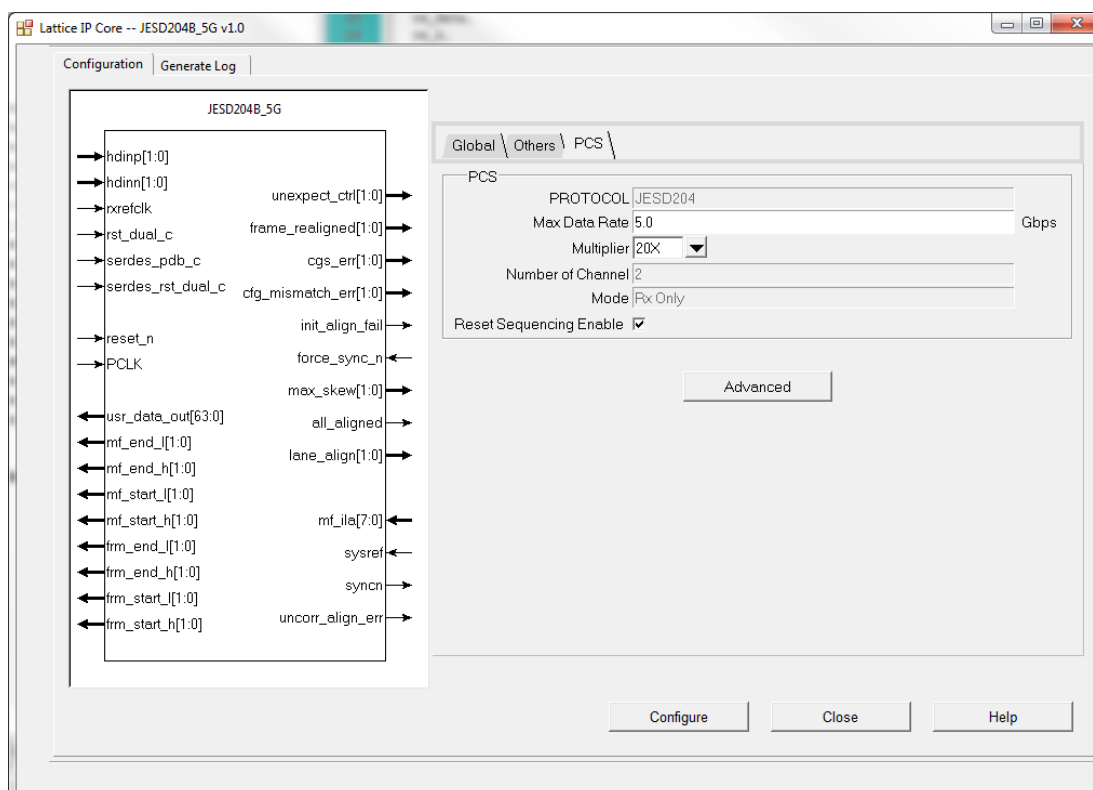

Figure 4.5. Configuring PCS in JESD204B 5G IP Configuration Interface in Clarity Designer
- To configure the PCS for the IP, click the **Advanced** button in PCS tab as shown in Figure 4.5.